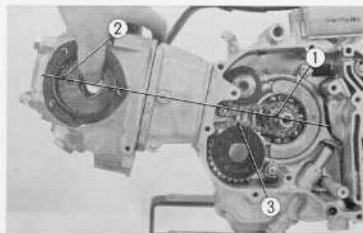

Fig. 3.40 Connecting the cam chain
5. Position the crankshaft so that the woodruff key ① is on the cylinder centerline and in the direction of the cylinder head. Align the "O" mark ② on the cam sprocket to the index mark on the cylinder head (the sprocket mounting bolt holes will be in line with the cylinder centerline) and then connect the cam chain ③. (Fig. 3.40)
6. Slide the camshaft ① into the cylinder head through the sprocket ② with the pin hole toward the head cover.